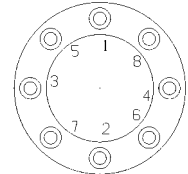

Figure 1
- 5** Tighten the bolts in a crisscross sequence by using a calibrated torque wrench. Continue until you reach 50% of the torque value specified for the bolts in the table (see Figure 1).